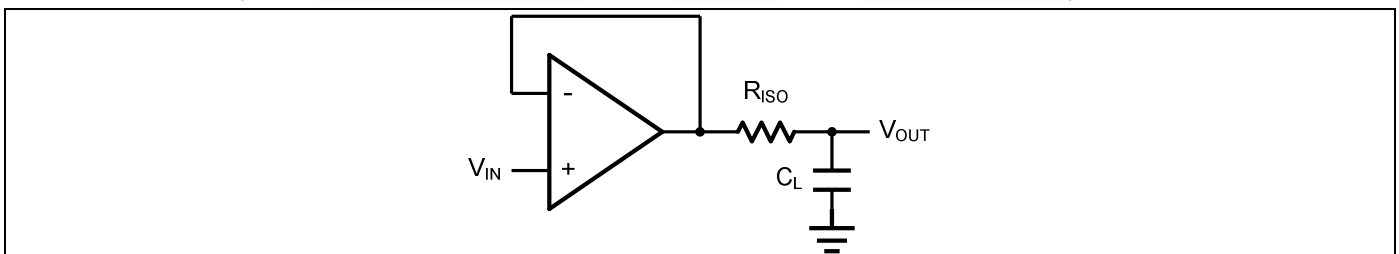
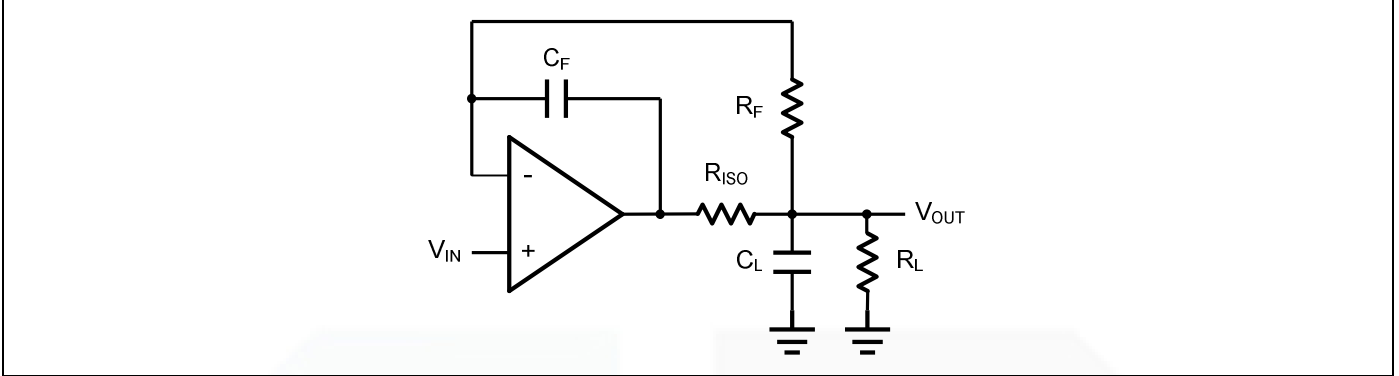

Figure 2. Indirectly Driving a Capacitive Load Using Isolation Resistor
Figure 3. Indirectly Driving a Capacitive Load with DC Accuracy
The GS859x family is optimized for bandwidth and speed, not for driving capacitive loads. Output capacitance will create a pole in the amplifier's feedback path, leading to excessive peaking and potential oscillation. If dealing with load capacitance is a requirement of the application, the two strategies to consider are (1) using a small resistor in series with the amplifier's output and the load capacitance and (2) reducing the bandwidth of the amplifier's feedback loop by increasing the overall noise gain. Figure 2. shows a unity gain follower using the series resistor strategy. The resistor isolates the output from the capacitance and, more importantly, creates a zero in the feedback path that compensates for the pole created by the output capacitance.
The circuit in Figure 3 is an improvement to the one in Figure 2.  $R_F$  provides the DC accuracy by feed-forward the  $V_{IN}$  to  $R_L$ .  $C_F$